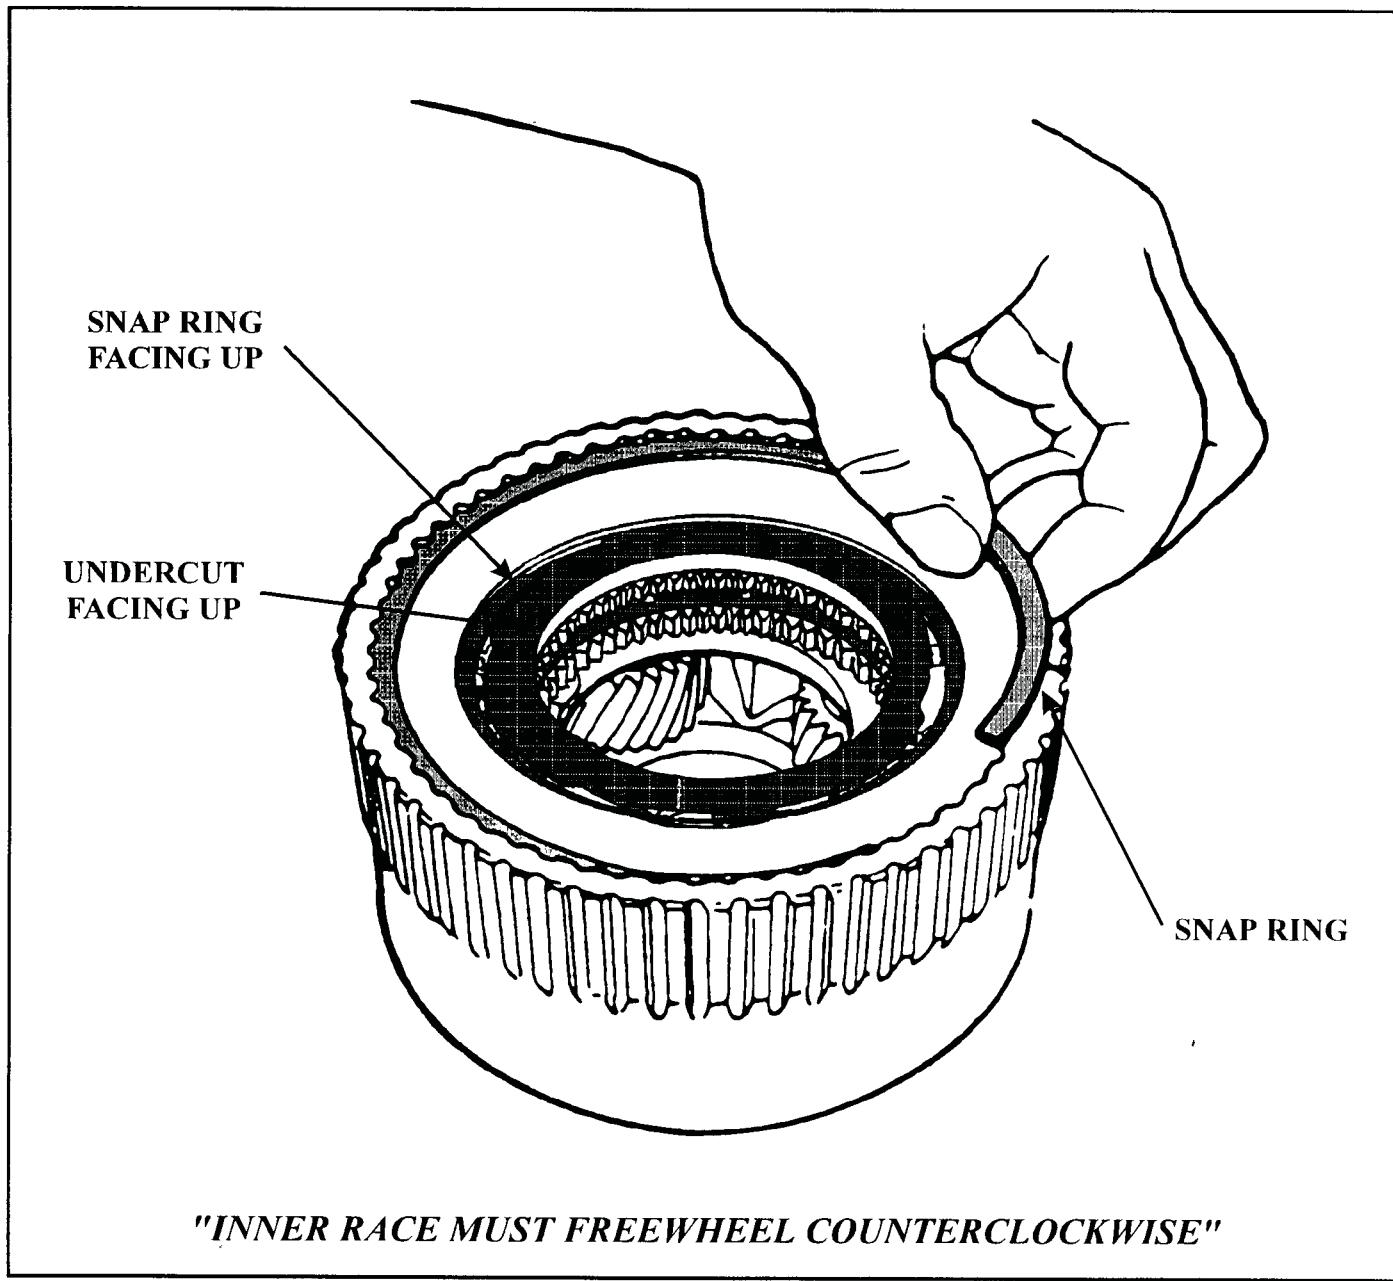

Figure 42
- (6) Install the completed Overdrive Roller Clutch Assembly into the overdrive ring gear, with the snap ring and the inner cam undercut, **facing up**, and install the outer race to ring gear snap ring, as shown in Figure 42.